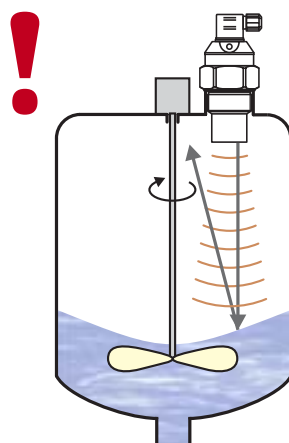

Fig. 12: Intensely stirred surface
- False surface reflections of the ultrasonic signal might result as a consequence of rotating mixer's blades that ripple the surface level and thus cause unreliable level meter's functioning (Fig. 12).